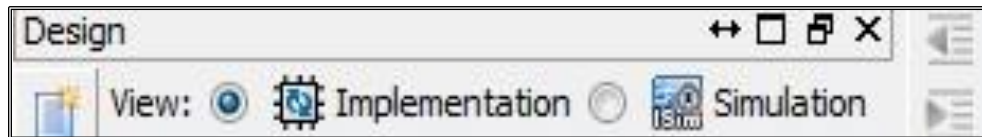

Fig 4.12: Design Implementation
15. For the implementation of the design, select **Implementation** Button in the Hierarchy window on the left pan (Fig 4.12).